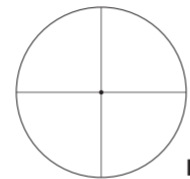

Fig. 3-2
- 1 Look through the eyepiece with your eye positioned about 10 cm (4 in) away from the eyepiece to see the Advanced BDC reticle (Fig. 3-1) or the Fine Crosshair w/Dot reticle (Fig. 3-2). Be sure your eye is positioned with proper alignment and with proper eye relief, otherwise the view will “black out.”